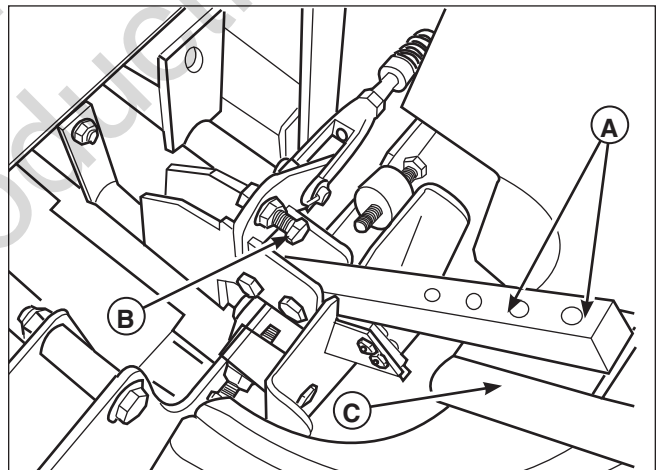

Figure 31. Control Lever Adjustment
To Adjust the Handle Alignment: Loosen the mount bolts (A, Figure 31) and pivot the lever(s) (C) to align with each other.
To Adjust the Handle Placement: Loosen the jam nuts and adjust the placement bolt (B, Figure 31) in or out to properly adjust the lever end spacing.